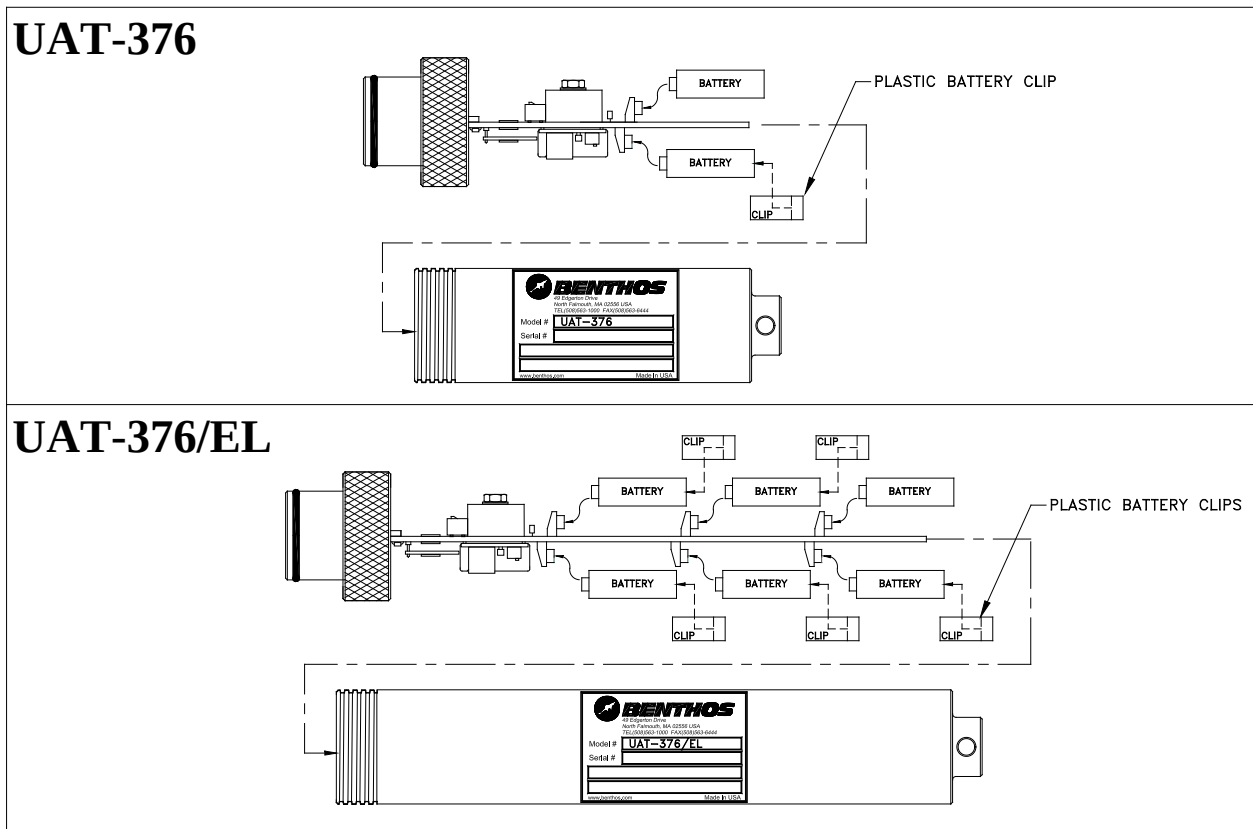

Figure 3 The UAT-376 Series Battery Installation
- ◆ Clip in the alkaline or lithium 9-Volt batteries (Figure 3).
- Install the one battery clip on the recessed battery for the **UAT-376** to prevent the battery from unplugging (Figure 3).
- Install the 5 battery clips on the recessed batteries for the **UAT-376/EL** to prevent the batteries from unplugging (Figure 3).